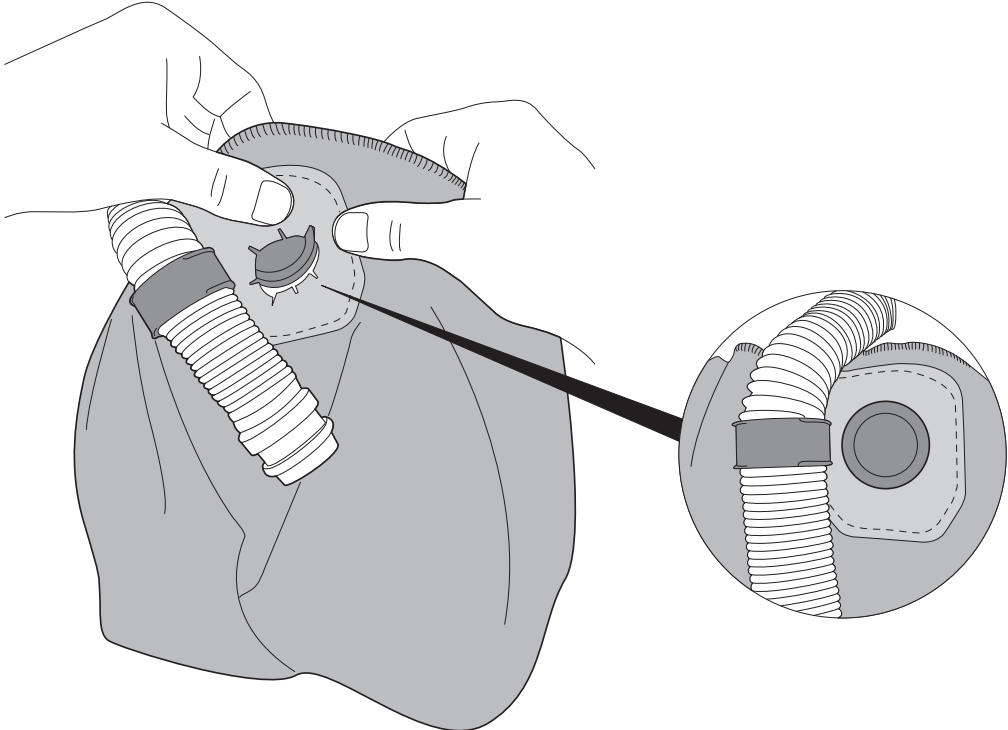

Fig. 18e
d. Push the head suspension ratchet knob through the round hole at the back of the shroud (Fig. 18e).